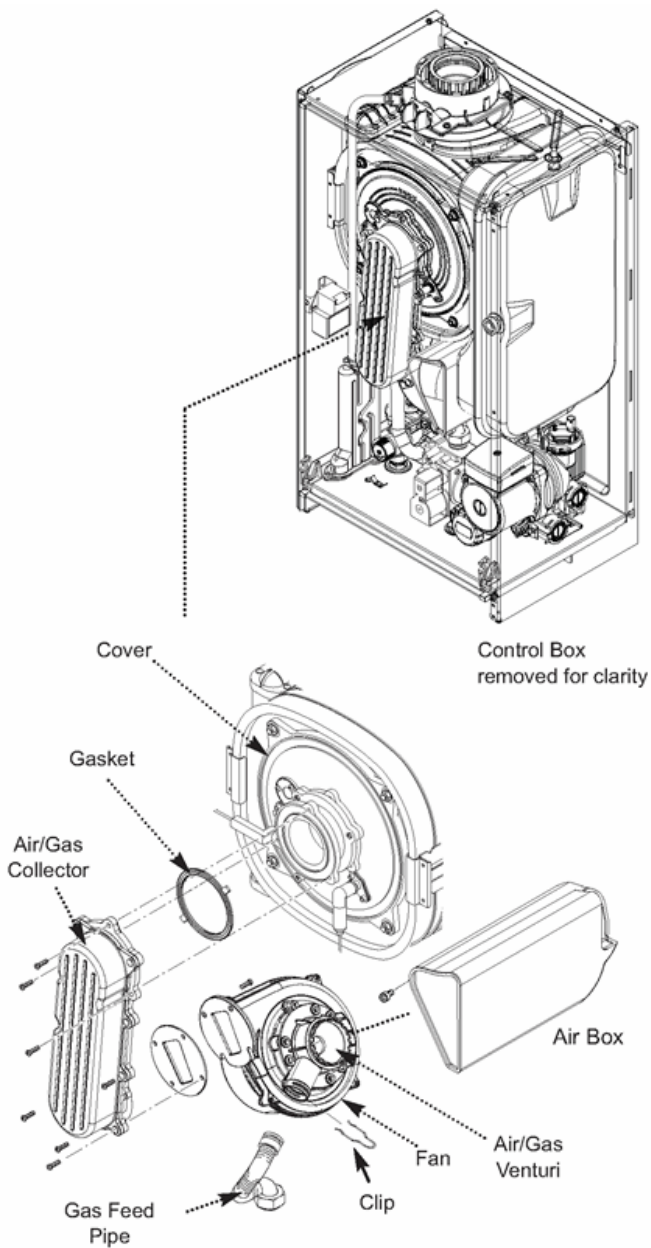

Fig. 50
10.3.2 Fan (Figs. 50 & 51)
2. Undo the screws securing the air/gas collector to the extension piece and disconnect the fan electrical plugs (Fig. 50).
10.3.3 Air/Gas Venturi (Figs. 50 & 51)